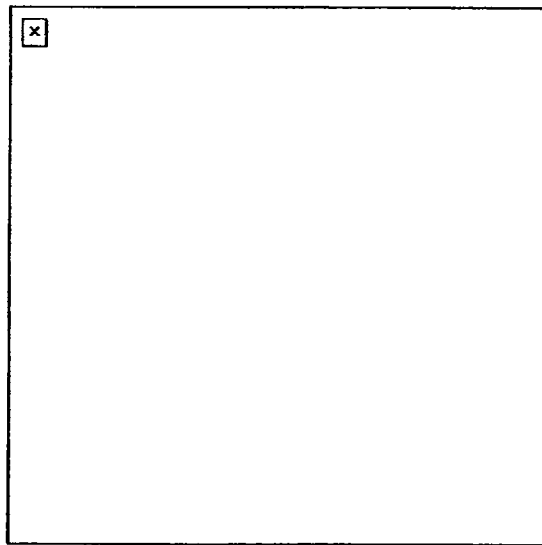

Figure 191-376-4122-4
- 4. Form a squad line formation using the hand signal as shown in Figure 191-376-4122-4. Assume the safe-port position when the command, "Squad as skirmishers" is given or when the squad leader gives the hand-and-arm signal for a squad line formation.